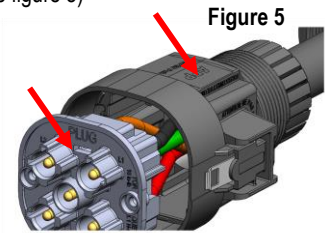

Figure 5
- a. Orient shell with "APP® SPEC Pak®" up and contact holder with the word "PLUG" on top. (see figure 5)